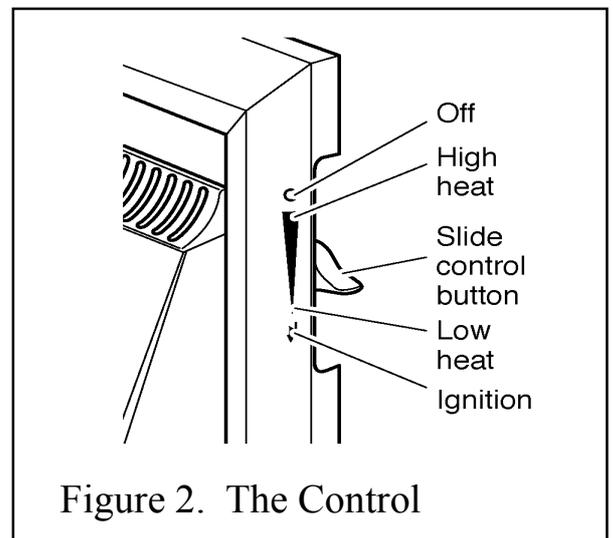

Figure 2. The Control
The slide control is shown in figure 2.
3. If low heat is required, release the button. The button will automatically spring up to the low heat position shown in figure 2 (See note i).
4. For a higher heat level slide the button upwards. The burner flames and heat output will gradually increase until the button reaches the high heat position shown in figure 2. When the button reaches the high heat position you will feel a check to its movement. **Do not slide the button above the high heat position unless you want to turn the fire off** (See note i).